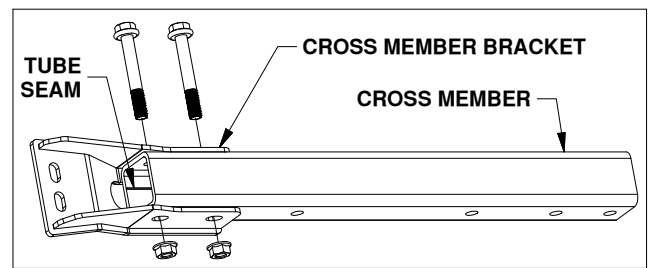
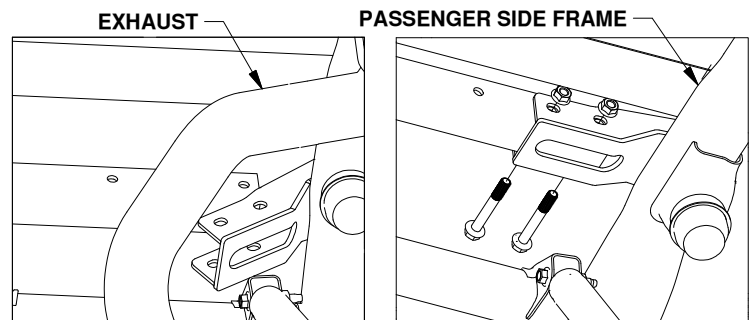
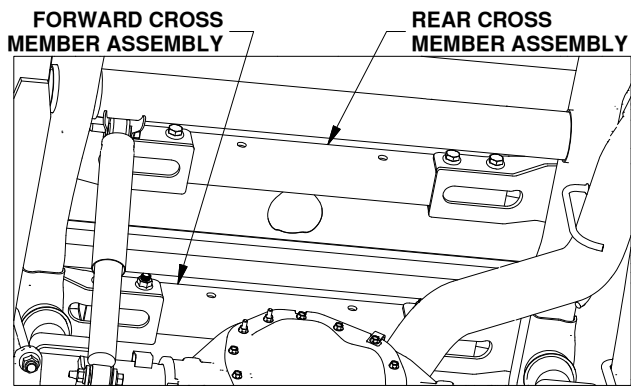

Figure B2: Cross member and bracket assembly.
Figure B4 & B5: View looking up at bottom of bed over axle.
Figure B6: View looking up at bottom of bed over axle.
3. **Forward cross member assembly.** Inspect one of the cross member tubes, find the wall that contains the welded seam. Bring a cross member bracket and cross member together so that the tubing wall that contains the welded seam is down inside the cross member bracket, see Figure B2. Attach the cross member bracket to the cross member by passing the 5/8" bolts through the two parts, as shown in Figure B2. Align the bolts so they are centered in the cross member brackets slots. Attach each bolt with a 5/8" flange nut. Push the cross member tightly into the cross member bracket so there is no gap between the two parts. Tighten and torque the 5/8" nuts to 150 ft. lbs.
5. **Complete the cross member assembly.** Pass a cross member bracket between the exhaust and the passenger side of the frame, see Figure B4. The flat end of the cross member bracket will go over the frame and the other side will bolt up to the cross member. Bolt the two parts together so the connections match the other side of the cross member. Once assembled move the cross member assembly so its just forward of the mounting holes in the frame, see Figure B5. Hand tighten hardware only at this time.
6. **Place the rear cross member.** Attach another cross member bracket to the remaining cross member as shown in Figure B2, leave the 5/8" bolts loose. Position the cross member behind the bed cross member and 4" hole drilled in the bed, see Figure B6. Attach a second cross member bracket to the cross member as shown in Figures B4 & B5. Hand tighten hardware only at this time.